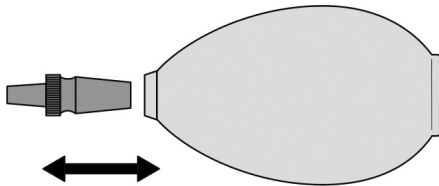

Fig. 2
- Remove the connector from the silicone bulb (fig. 2).
- Assemble the silicone bulb and the connector according to fig. 2 in reverse order.